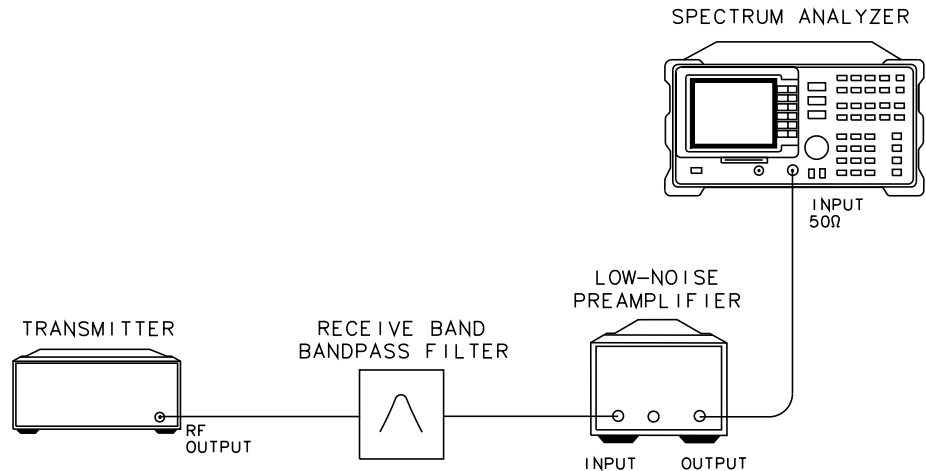

Figure 24 Test Setup for Spurious Emissions - RX Band
- 5 Press **OUTSIDE TX RX**. Refer to Figure 24 on page 69 for the test setup. During the measurement, the spectrum analyzer scans outside the GSM transmit and receive bands for spurious signals. Spurious signals found are listed in a table.
- 7 Press **RX BAND**. For RX band spurious emissions measurements, a caution and instruction message appears on the display. Connect the receive-band BPF and the preamplifier as illustrated in Figure 24 on page 69.